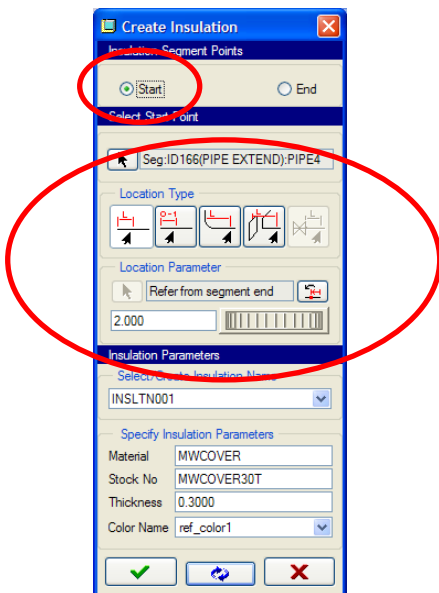

Figure 11
- The “**Create Insulation**” dialog box pops up by default, requesting that a pipe segment be selected for the start point location. (See Figure 11)
- Pick a pipe segment near the start end, pick near the ending end of the insulation, (pick on a different segment if necessary), select “Start” again and then choose the desired “**Location Type**” option. (See Figure 11)
- Specify the offset distance in the “**Location Parameter**” field. The distance can be adjusted here to allow for the pipe fittings. (See Figure 11)